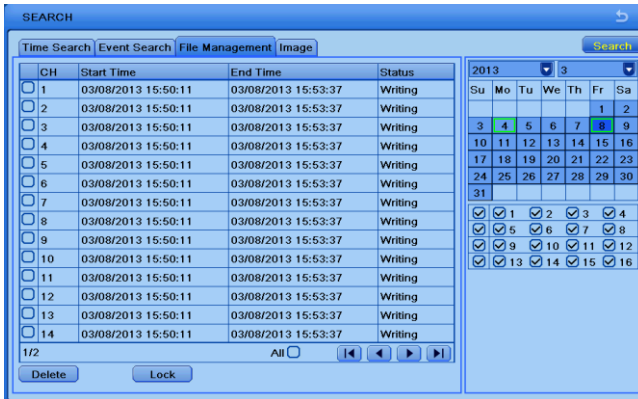

Fig 5-3 Search Configuration-File Management
- ② Select date and channels on the right hand side. A data with highlighted borderline indicates presence of data.
- ③ Checkmark Motion, Sensor or All accordingly.
- ④ Click Search button to display the searched event information in the event list box.
- ⑤ Double check a certain record file to playback.
- ① Go to Main Menu→Search→File Management interface. Refer to Fig 5-3.